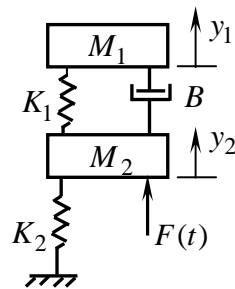

Fig. Q7.
- 7 For the mechanical system shown in Fig. Q7, write down the differential equations of motion and electrical analogous circuit based on force-voltage and force-current analogy.